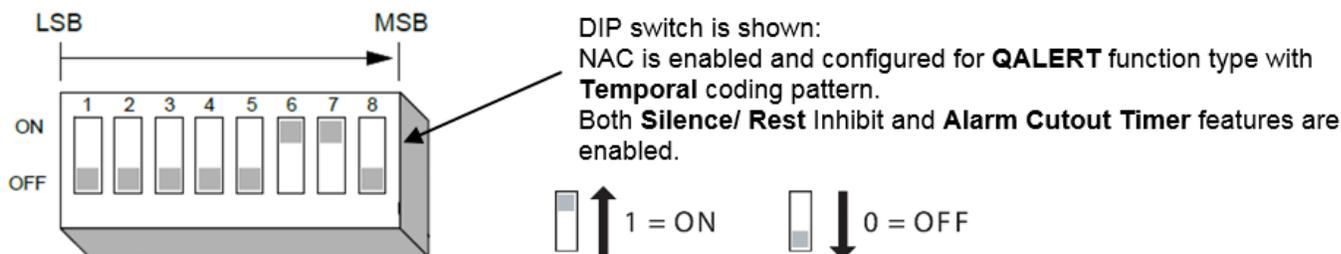

Figure 3: DIP switch SW2 settings
3. Use DIP switch SW2 to configure the NAC function type and coding pattern. See Figure 3, Table 8 and Table 9.
Note: NAC is enabled and configured for QALERT function type with **Temporal** coding pattern. Both **Silence/ Rest Inhibit** and **Alarm Cutout Timer** features are enabled. See Figure 3.